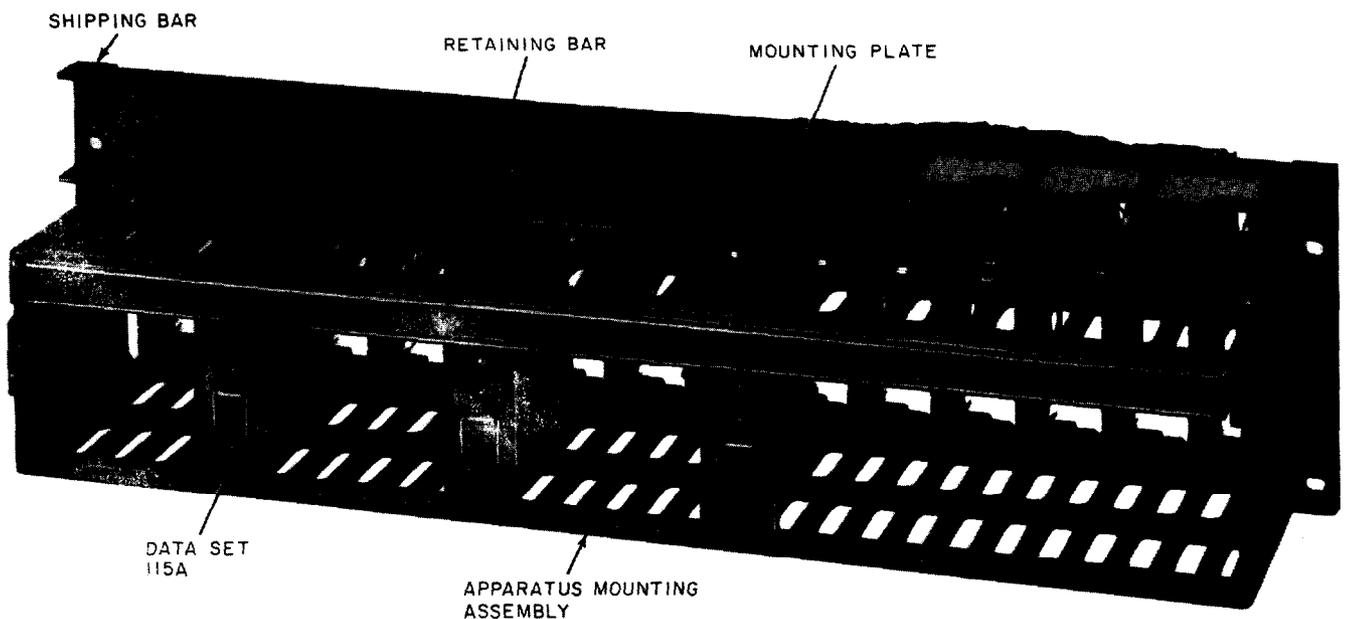

Fig. 7—43A1 Data Mounting (Partially Equipped)
2.05 To install the 43A1 data mounting, first remove the two nuts (Fig. 7) which secure the mounting plate to the shipping bars and the apparatus mounting assembly. Insert the 43A1 data mounting into the frame at a slight angle, rotate into place, and secure to frame.